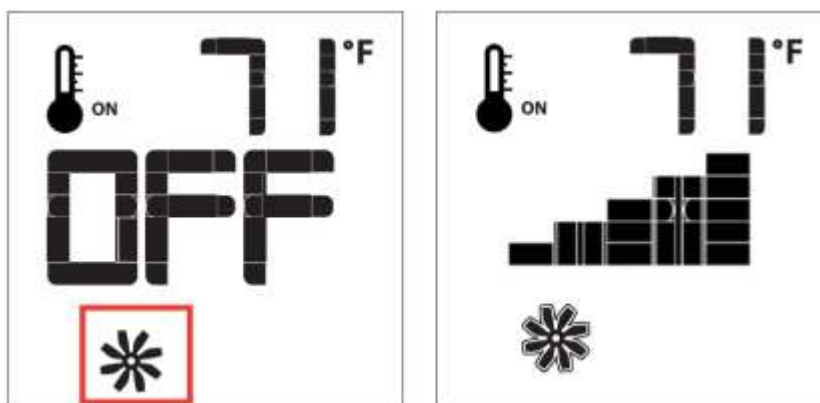

Figure 10: Fan Control
If the appliance is equipped with a hot air circulating fan, the speed of the fan can be controlled by the Proflame System. The fan speed can be adjusted through six (6) speeds. To activate this function use the Mode Key (Figure 1) to index to the fan control icon (Figure 10). Use the Up/Down Arrow Keys (Figure 1) to turn on, off or adjust the fan speed (Figure 10). A single “beep” will confirm reception of the command.